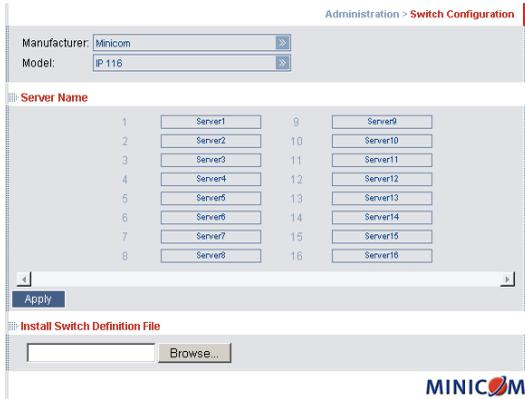

Figure 28 Switch Configuration
1. From the menu click **Switch Configuration**. The Switch Configuration window appears, see Figure 28.